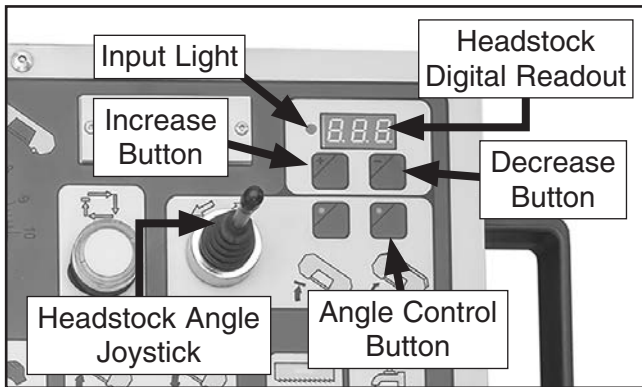

Figure 46. Headstock control section.
The headstock can be swiveled to cut angles from 0°–60° to the left or right for a total swing of 120°. The headstock angle is controlled with hydraulics, and can be adjusted using the headstock control section of the control panel (see **Figure 46**).
4. Press angle control button () to edit headstock angle setting (see **Figure 46**).
5. Use headstock increase/decrease buttons to adjust angle until headstock digital readout displays desired angle (see **Figure 46**). Each press will change angle by 0.2°.